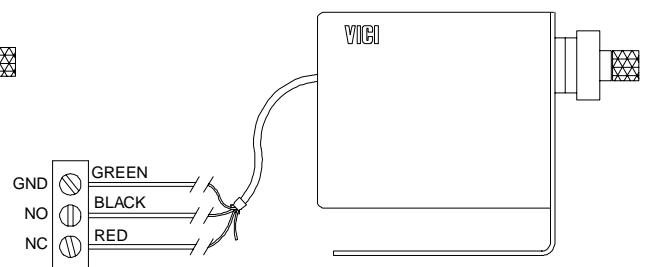

Figure 3: Single relay connection
If the data system has only a single double-pole relay with normally open (NO) and normally closed (NC) terminals (**Figure 3**), connect the green wire (GROUND) to the relay common or logic ground. Connect the black (INJECT) wire to the normally open (NO) relay terminal and the red (LOAD) wire to the normally closed (NC) terminal. The computer must be programmed to keep the Normally Open (NO) relay contact engaged (ON) as long as the actuator is to be in the INJECT position.